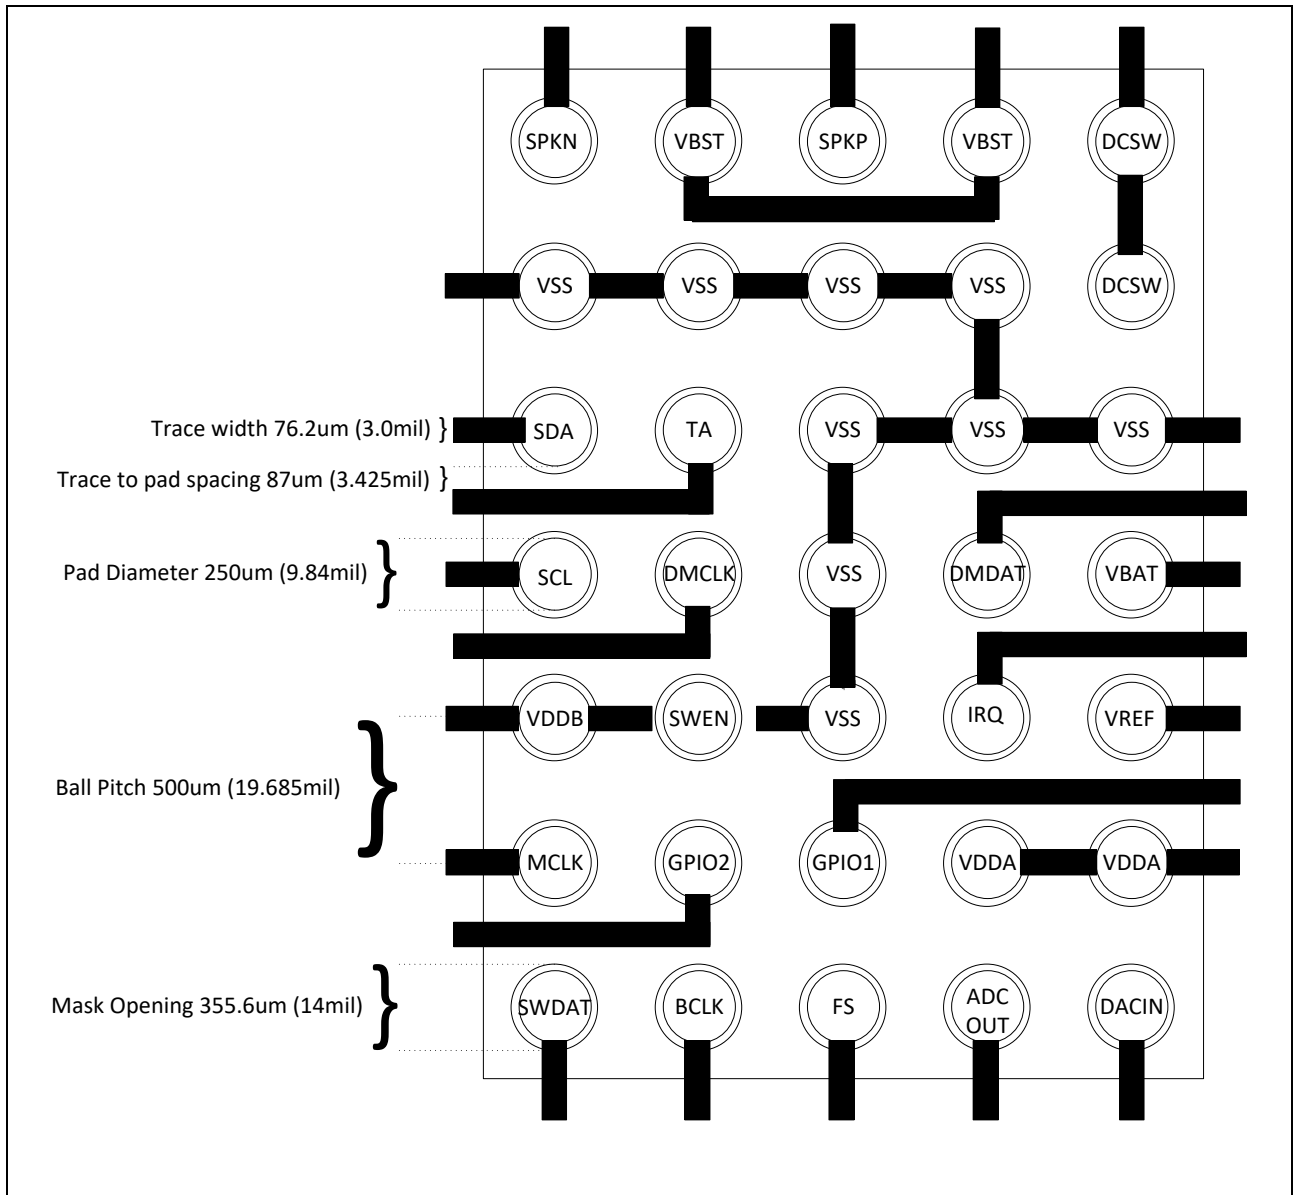
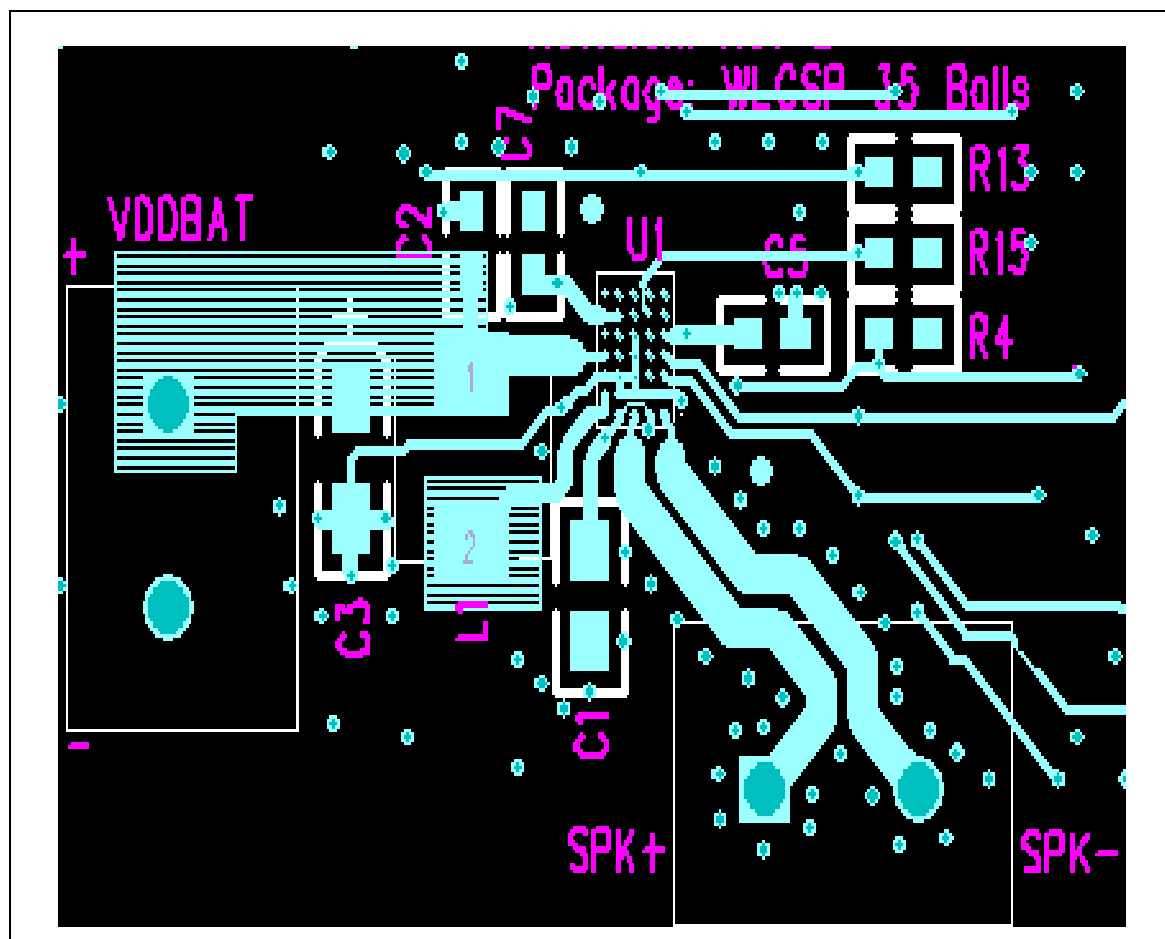
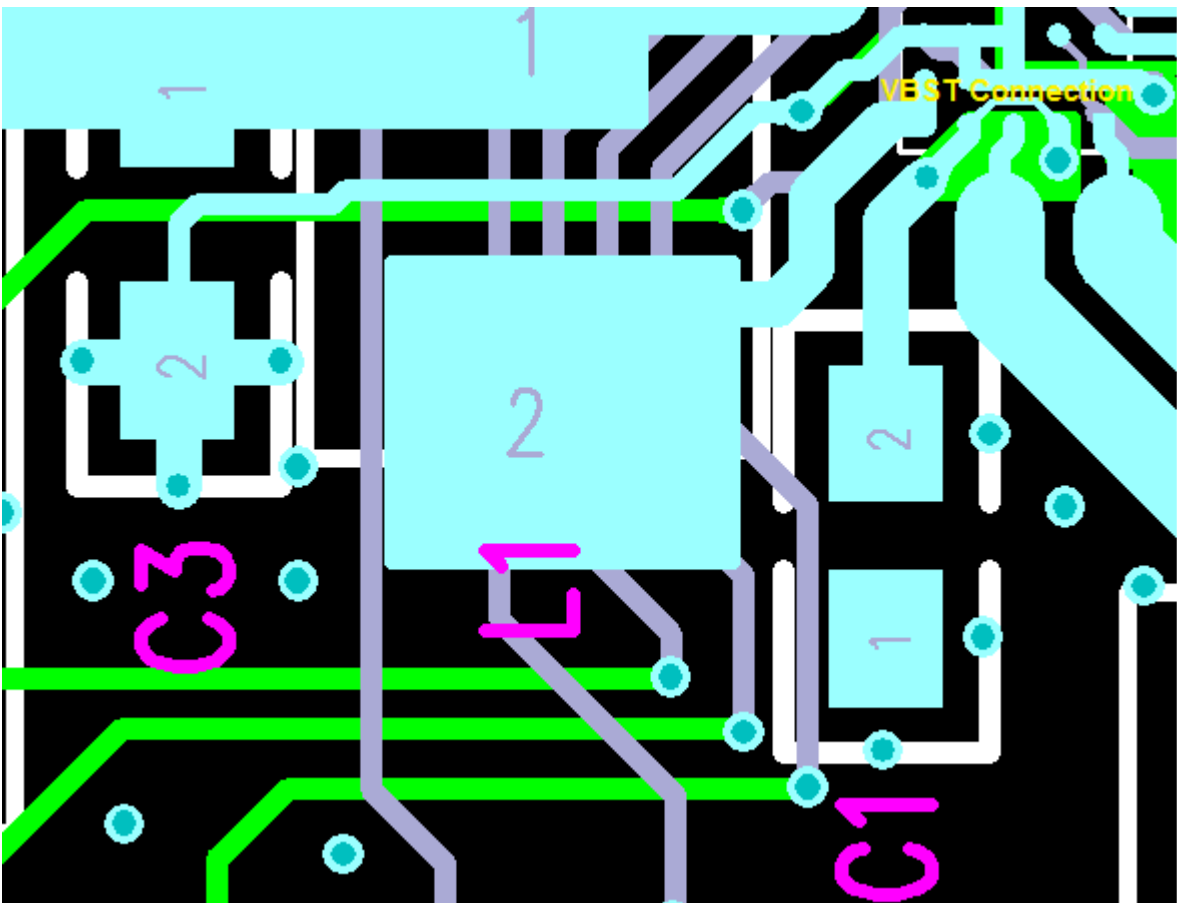

Figure 18 Recommended PCB Footprint
Figure 19 Layout Traces Example
Figure 20 VBST balls connection (Blue: Top layer; Green: Second Layer)
The recommended footprint for the PCB layout for the NAU8331 is provided in **Figure 18**, as viewed from the top of the PCB.
- For the traces that run between the balls, follow the guidelines listed in **Figure 18** and see the example illustrated in **Figure 19** and **Figure 20** VBST balls connection (Blue: Top layer; Green: Second Layer).